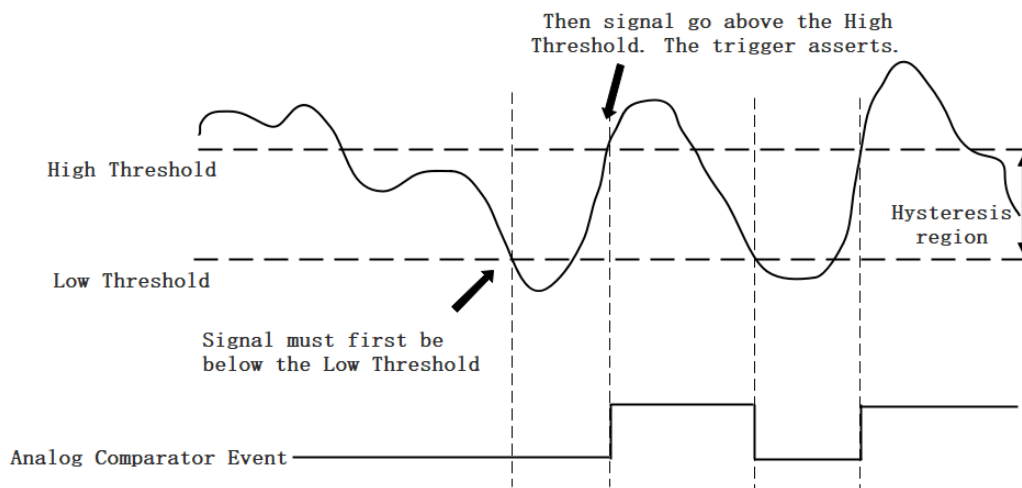

Figure 45 Hysteresis with Rising Slope Trigger
***Hysteresis with Rising Slope Trigger:*** The Hysteresis comparator output is high when the signal must first be below the low threshold, then goes above the high threshold. The output will change to low when the signal goes below the low threshold as shown in Figure 45.